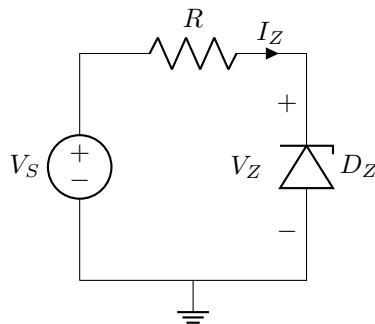

Figure 3: Zener diode characteristic measurement circuit. The Zener diode is reverse-biased with the cathode toward the positive supply.
You will now investigate the voltage regulation properties of a Zener diode operating in its breakdown region. Construct the circuit shown in Figure 3 using your Zener diode and a $100\ \Omega$ resistor. Pay careful attention to the polarity: for the Zener to operate in breakdown, its cathode (the marked end) must be connected toward the positive terminal of the supply through the resistor, and its anode must be connected to ground. This is the reverse of normal diode operation.
4. For the Zener circuit in Figure 3, assume $V_S = 10$ V, $R = 100 \Omega$, and $V_Z = 5.1$ V (and assume this voltage remains constant in breakdown). Calculate (a) the current through the Zener diode, (b) the power dissipated by the Zener diode, and (c) determine whether this exceeds a 1 W power rating. Show all work.
5. Explain in your own words the difference between static (DC) resistance and dynamic (small-signal) resistance of a diode. Write the mathematical expression for calculating each type of resistance.